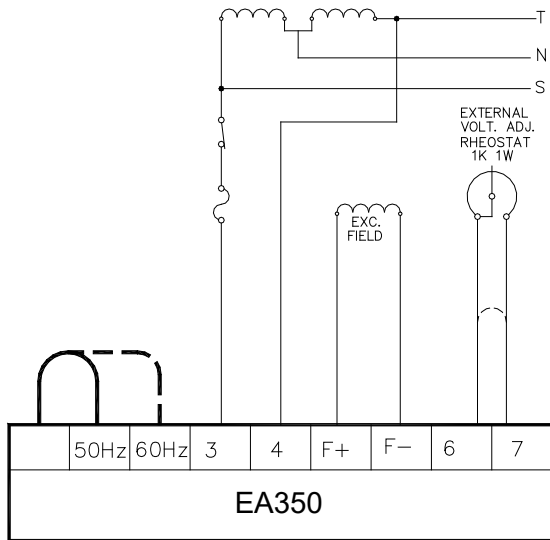

Figure 5 1Ø 220VAC Diagram
- See Figure 5~6 for typical connection diagram.
See Figure 5~6.
Terminals 6 and 7 are factory preset to be short-circuited. Connect 1 K Ohms 1 Watt Variable Resistor (VR) across terminals 6 and 7 for external voltage adjustment, adjustment range is $\pm 5\%$. Short terminals 6 and 7 when external VR is not used. (For $\pm 10\%$ voltage variation use a 2K ohm 1 watt rheostat). See Figure 5~6.
- Rheostat Jumper connected across terminals 6 and 7. This enables adjustment of the generator output voltage rheostat. A 1K ohm, half-watt rheostat will provide adequate voltage adjustment range for most applications. Figure 5~6 shows the proper remote rheostat connections.